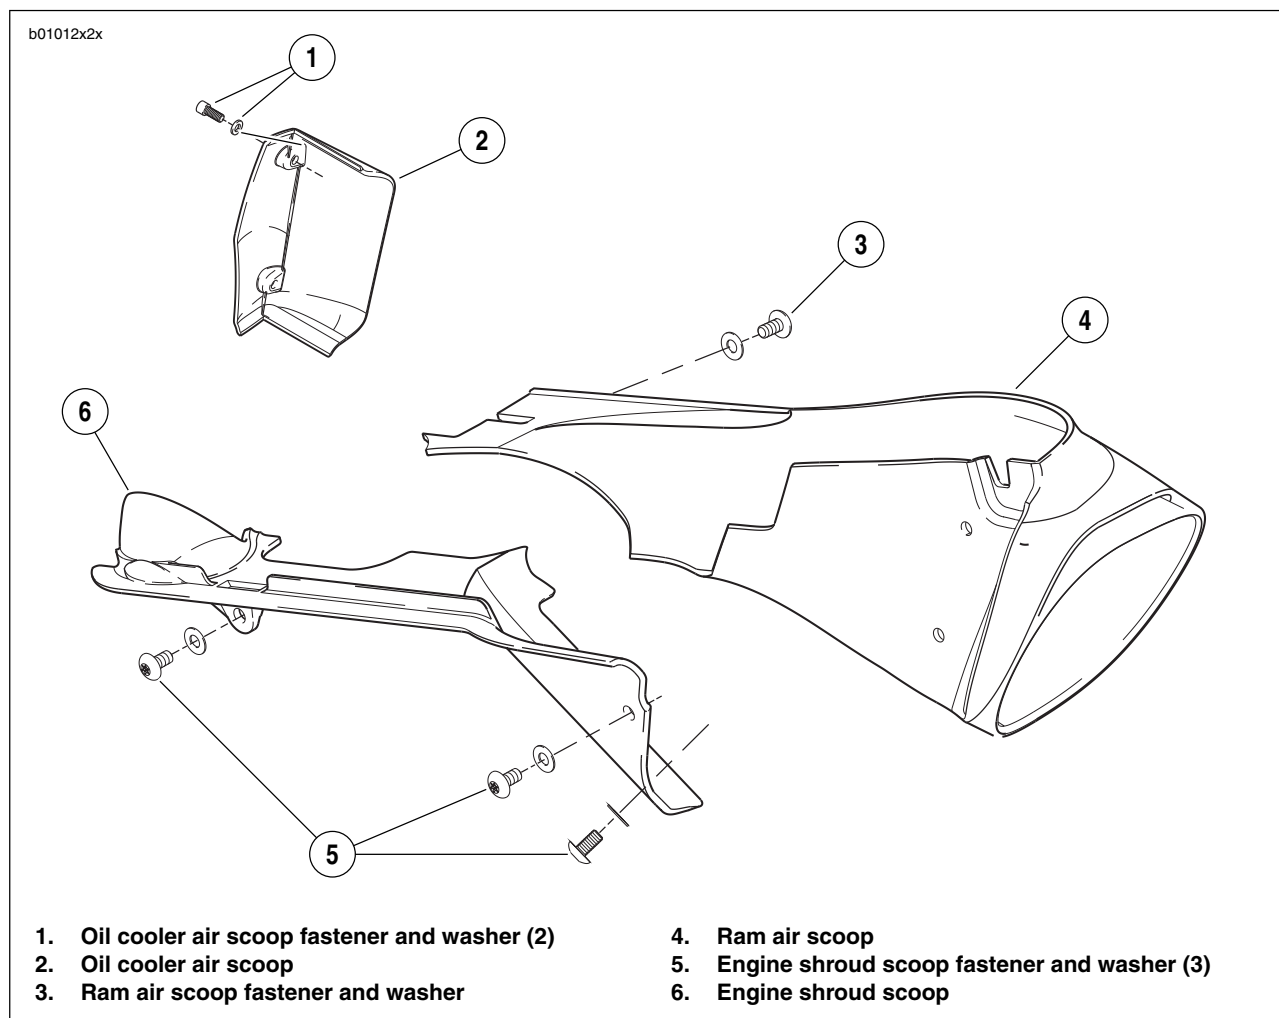

Figure 2-114. Ram Air Scoop, Engine Shroud, Oil Cooler
1. See Figure 2-114. On left side of bike, locate ram air scoop (4).
2. Remove three ram air scoop fasteners (3).
3. Remove ram air scoop (4).
1. See Figure 2-114. Position ram air scoop (4).
2. Install ram air scoop (4) with three fasteners (3). Tighten to 12-36 **in-lbs** (1-4 Nm).
1. See Figure 2-114. On right side of bike, locate engine shroud air scoop (6).
2. Remove three engine shroud air scoop fasteners (5).
3. Remove engine shroud air scoop (6).
1. See Figure 2-114. Position engine shroud air scoop (6).
2. Install engine shroud air scoop (6) with three fasteners (5). Tighten to 12-36 **in-lbs** (1-4 Nm).
1. See Figure 2-114. On left side of bike, locate oil cooler air scoop (2).
2. Remove two oil cooler air scoop fasteners (1).
3. Remove oil cooler air scoop (2).
1. See Figure 2-114. Position oil cooler air scoop (2).
2. Apply LOCTITE 272 (red) to oil cooler air scoop fasteners (1) and tighten to 120-144 **in-lbs** (14-16 Nm).